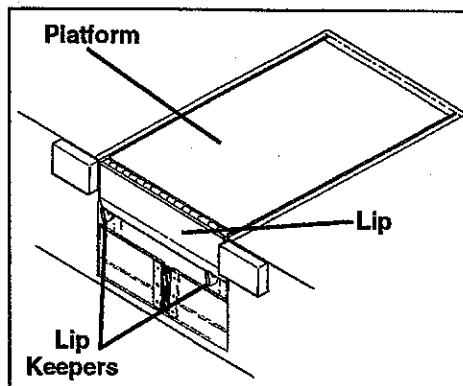

Fig. 20. Dock Leveler In Cross Traffic Position
11. Use a fork truck (or other method) to raise the dock leveler platform. Remove the maintenance prop. Set the platform in the cross traffic position (lip fully folded, inside the keepers, and the platform level with the dock floor). See Figure 20.